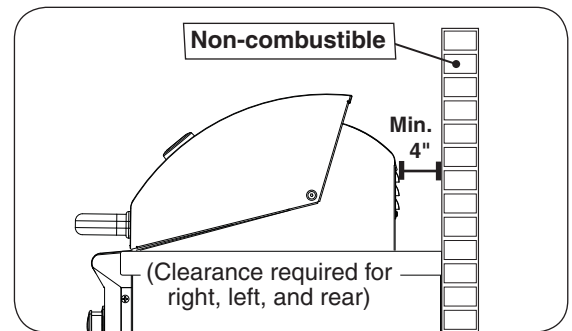

Fig. 10-2 Clearance 'A' Diagram
A. Clearance between grill and strictly non-combustible wall (i.e. brick wall, see Fig. 10-2)